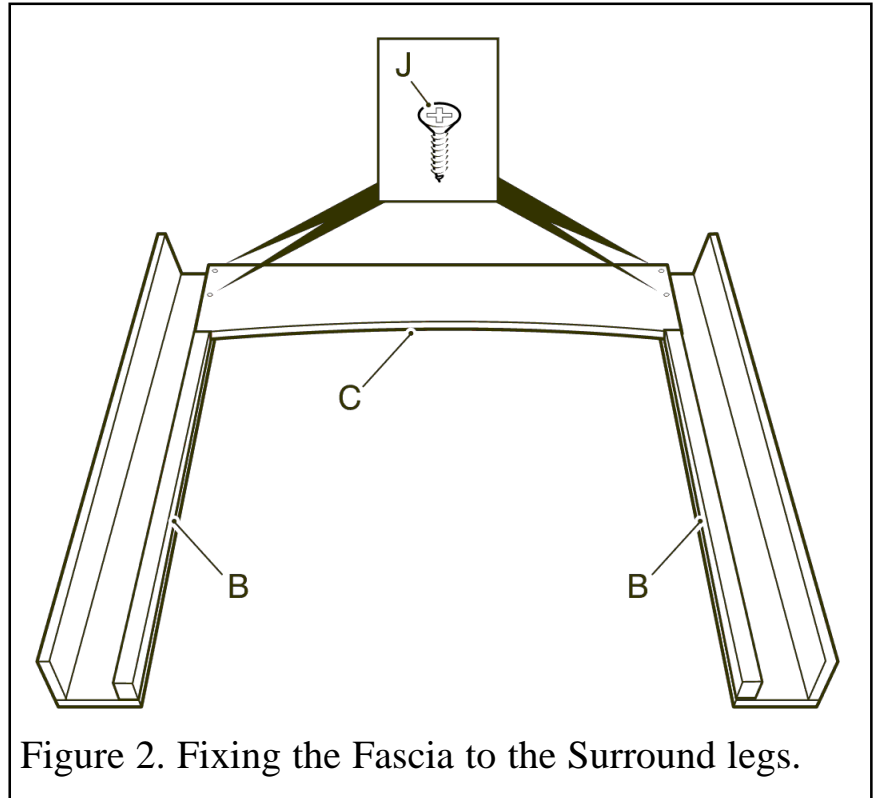

Figure 2. Fixing the Fascia to the Surround legs.
- Take the Fascia (C) and locate it to Legs (B) using screws (J) (See figure 2).